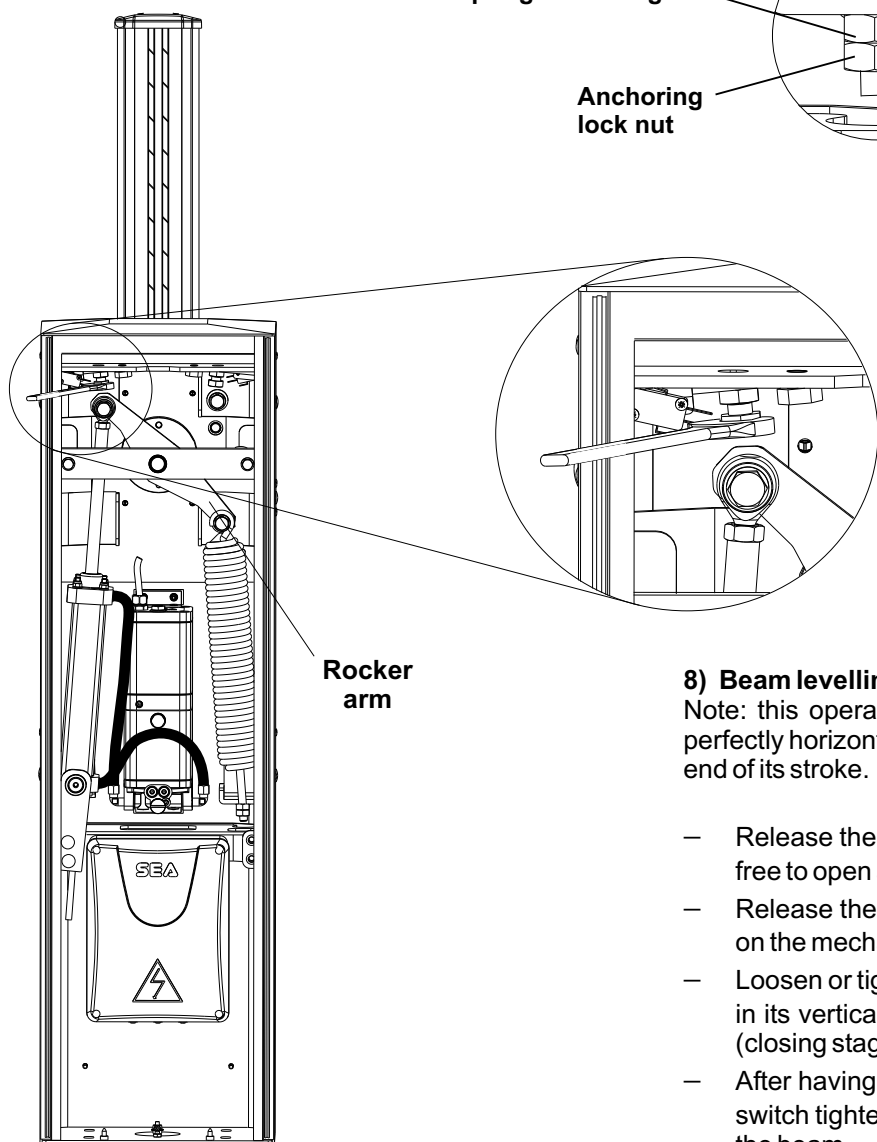

Fig. 13
- Release the screws of the limit switch on unscrewing the nuts on the mechanical stops (fig. 13).
- Loosen or tighten the stop screws so that the beam is released in its vertical position (opening stage) and horizontal position (closing stage) (Fig. 13).